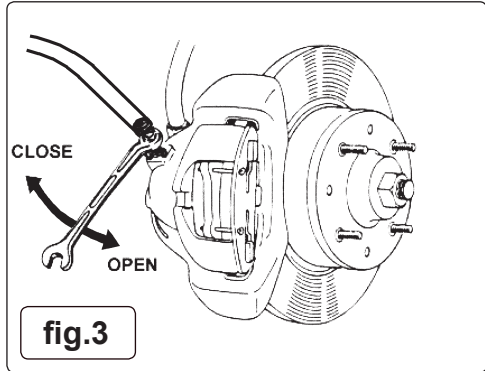

fig.3
- 4.2.4. Starting with the wheel furthest away from the brake fluid reservoir, connect one end of a tube from a bleed bottle to the brake nipple and, using a brake spanner, open the nipple approximately ¼ turn (fig.3), brake fluid will flow through the clear pipe into the bottle, when there are no visible bubbles in the fluid, tighten the bleed nipple and remove the pipe, taking care not to spill any brake fluid.